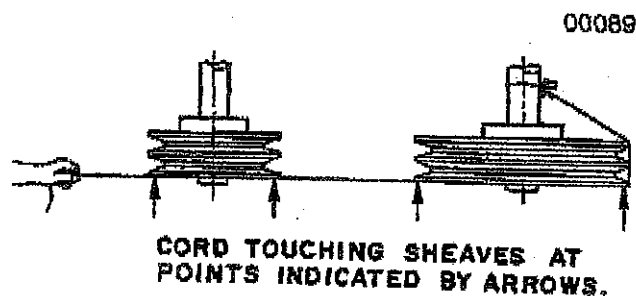

Figure 4-1. Drive Belt Alignment
3. Check the drive belt sheave alignment. The sheaves must be at right angles to the drive shaft with the faces in line as shown in Figure 4-1.